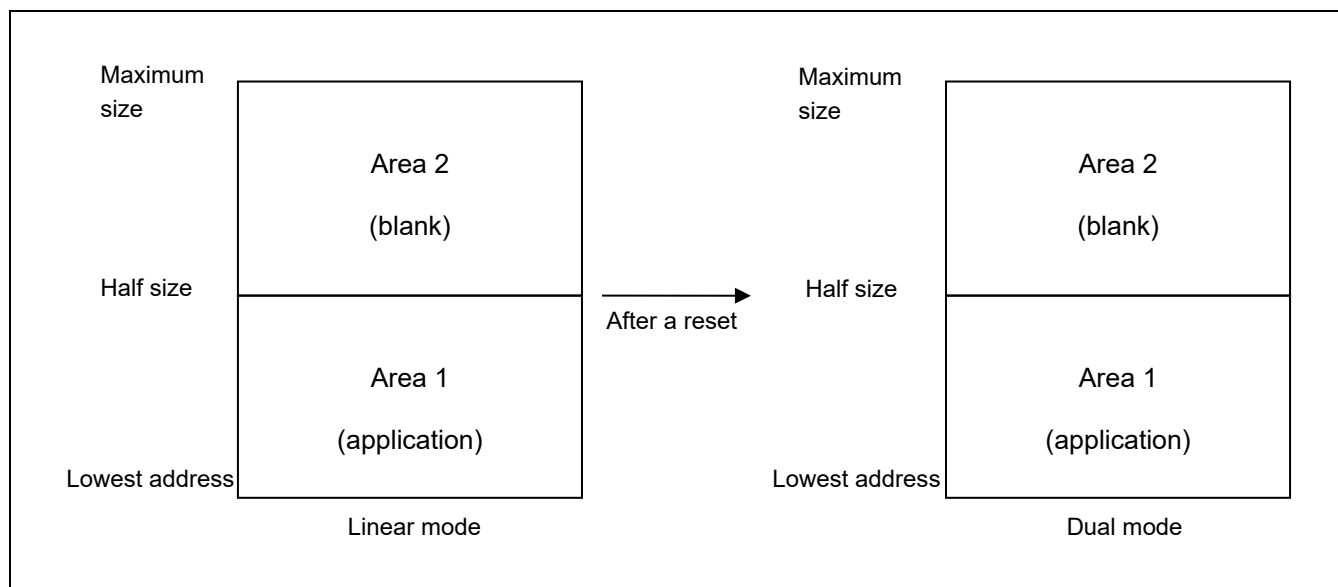

Figure 5-1 Programming an Application for Use in Dual Mode in Linear Mode
(1) Programming an application at the same time as switching to dual mode
- Condition: Do not program area 2 in Figure 5-1.
2. Program the program file for the option-setting memory that specifies the dual mode and the program file (application) for area 1 in Figure 5-1.
Remark: When switching from linear mode to dual mode is to proceed, it is recommended that area 2 in Figure 5-1 be blank.